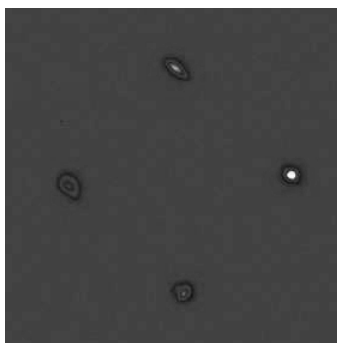

Figure 9.10.4 Image during optical alignment of Enhance Ultra
4. Repeat points 2-3 until the image consists of 4 separate spots. The left hand spot will be very much more intense than the others (see Figure 9.10.4).